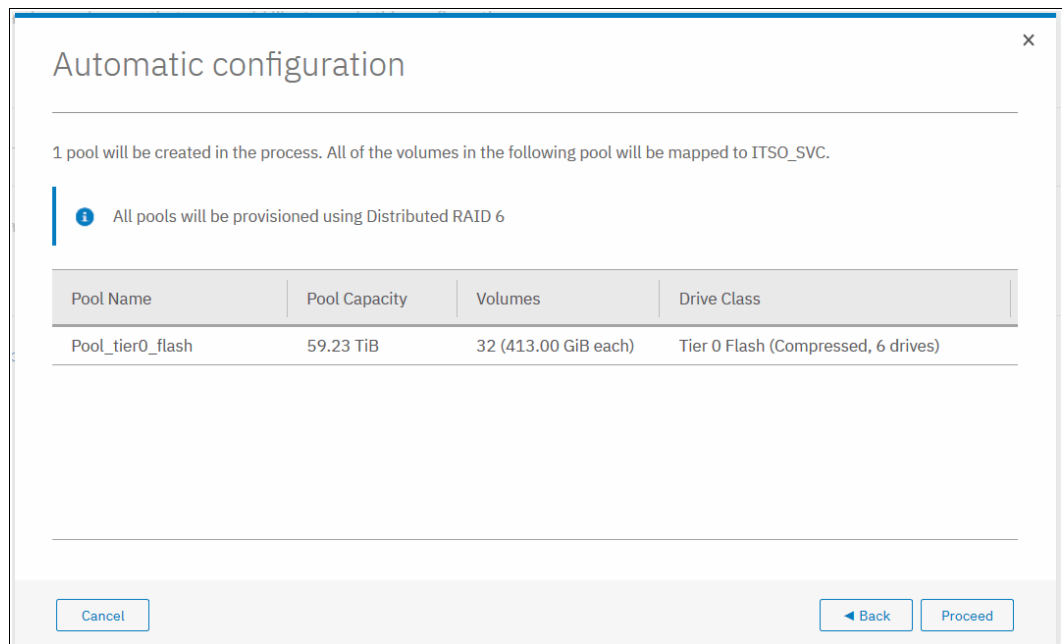

Figure 3-48 Pools configuration
- Review the pool (or pools) configuration, as shown in Figure 3-48, and click **Proceed** to trigger commands that will apply it.